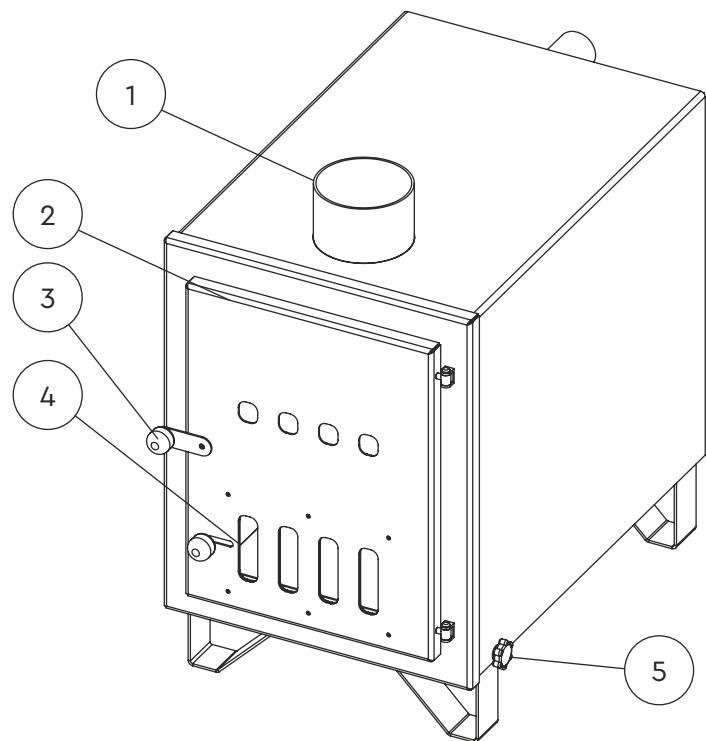

Fig. 2
**External heater** – heater (see Fig. 2), which is connected to the hot tub to heat the water inside the hot tub.
The external heater and chimney are hot during heating and for a few hours after heating. It is forbidden to touch these parts with bare hands during use. To open the door of the heater, grab from the latch of the door of the heater. See Fig. 2.